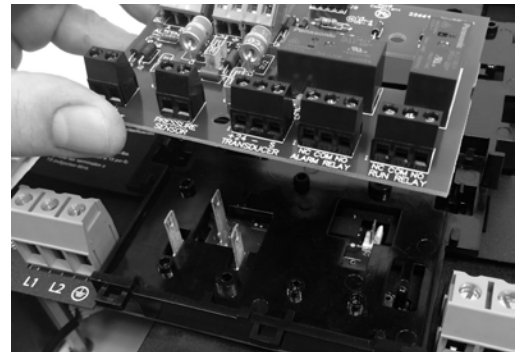

Figure 5
7. Install the replacement sensor board by lining up the three tabs on the drive with the three receptacles on the sensor board. Press the board straight down until fully seated in the plastic bracket (Figure 5).